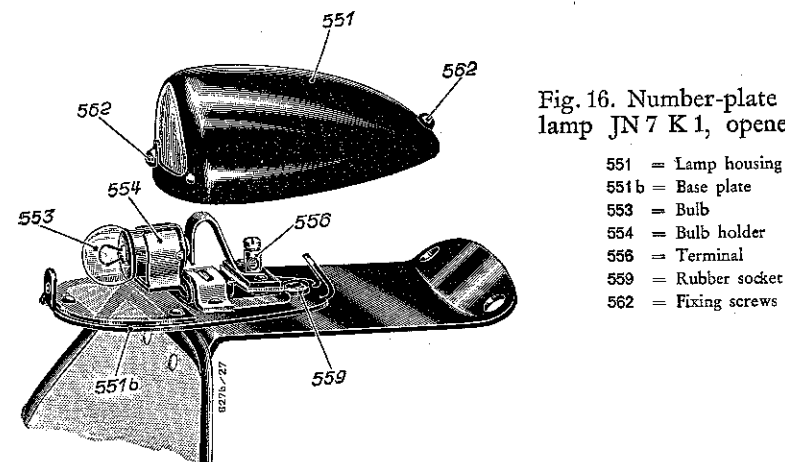

Fig. 16. Number-plate lamp JN 7 K 1, opened
b) Number plate lamp JN 7 K 1 (Fig. 16).
Fixing the cable and replacing the bulb is done in the same manner as on number plate lamp JN 7 K 1 (Fig. 16).